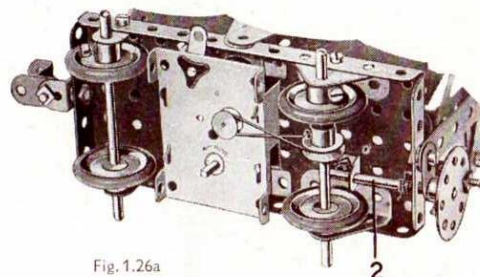

Fig. 1.26a
Each of the Bolts (1) is *lock-nutted*. A piece of Cord is fastened to the Rod (2) (Fig. 1.26a) wrapped round it two or three times, and then is taken through the hole in the Flanged Plate above the Rod and secured to the Angle Bracket (3). By turning the Bush Wheel the container is tipped sideways.